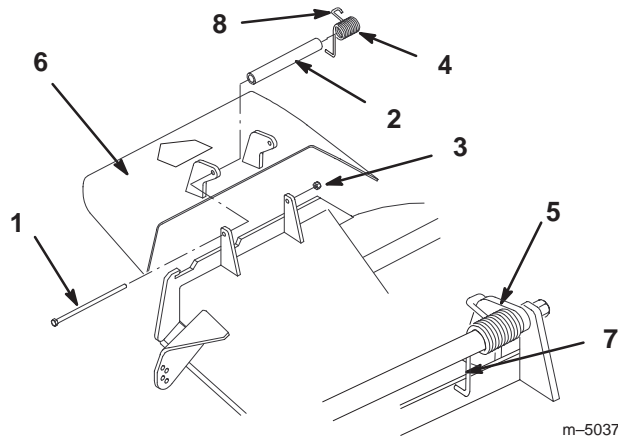

Figure 32
1. Remove the locknut, bolt, spring and spacer holding the deflector to the pivot brackets (Fig. 32). Remove damaged or worn grass deflector.
- Note:** Make sure the **L** end of spring is installed behind deck edge before installing the bolt as shown in figure 32.
3. Install bolt and nut. Place the **J** hook end of spring around grass deflector (Fig. 32).